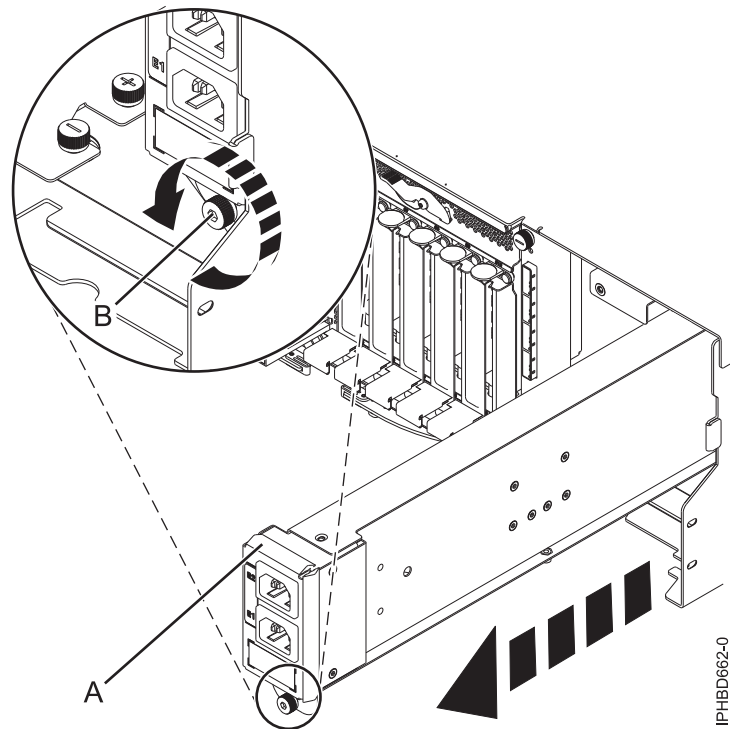

Figure 29. Removing an input power distribution assembly
8. Loosen the thumbscrew (**B**) on the input power distribution assembly. Pull out the assembly from the expansion unit, as shown in Figure 29.